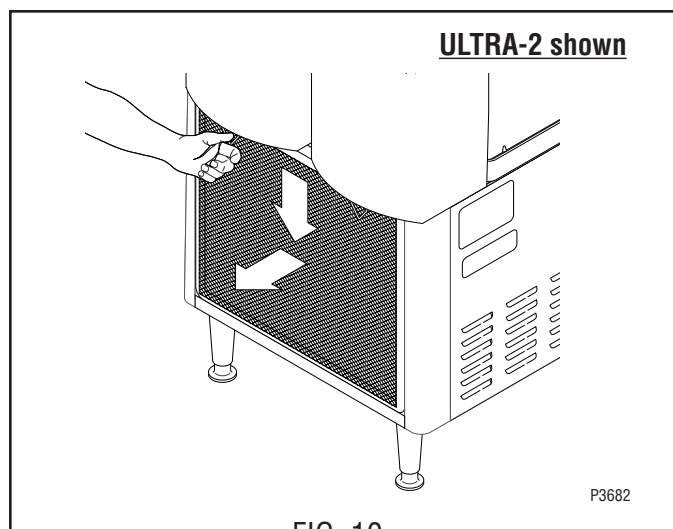

FIG 10
17. Remove and clean condenser air filter, Fig. 10.